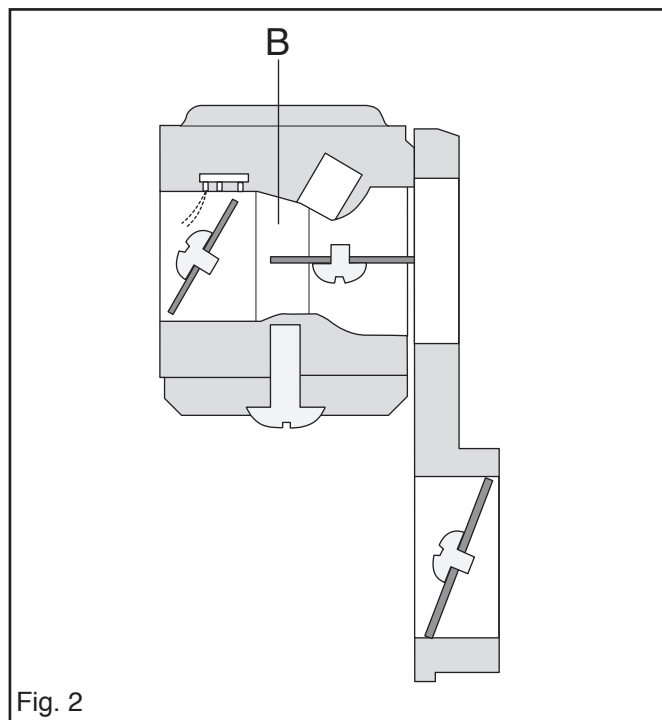

Fig. 2
- The mixing venturi, B in fig. 2.